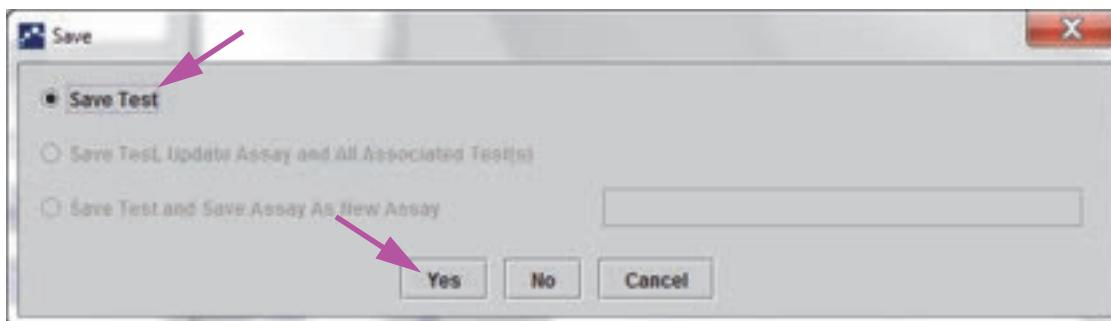

Figure 5-51. Save Dialog Box
4. Click the **Save Changes** button located at the bottom of the View Results window (see Figure 5-50). The Save Test dialog box appears. See Figure 5-51.